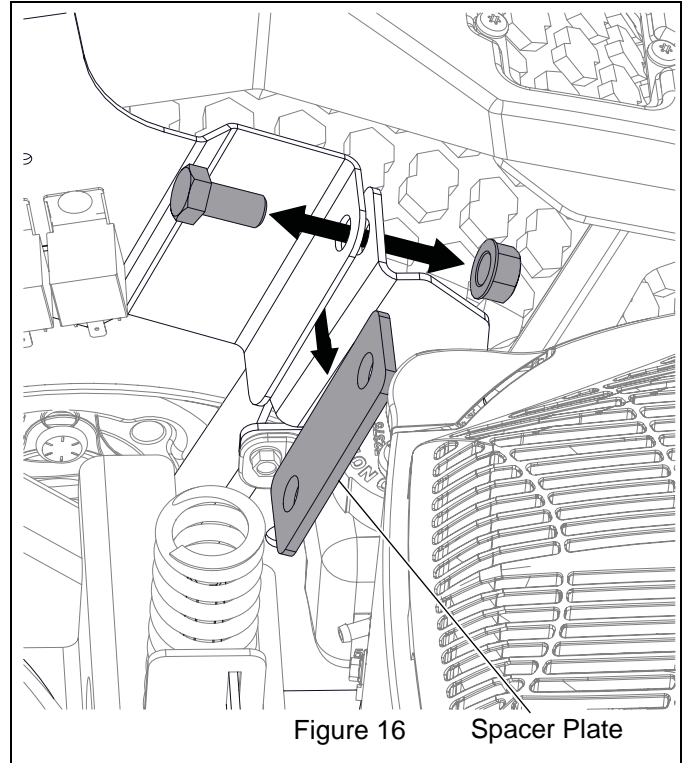

Figure 16 Spacer Plate
12. Remove 1/2 x 1" bolt and hex nut retaining spacer plate and remove plate. Discard bolt, nut and spacer. See Figure 16.